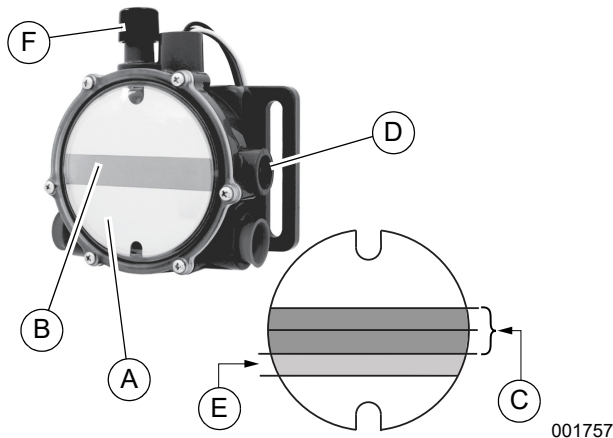

Figure 8-1. Lube Oil Maintainer Regulator
See Figure 8-1. The green bar (B) observed through the viewing lens (A) shows normal oil level operating range (C) of lube oil maintainer regulator during engine running operation. When oil level is within green bar, the internal float holds the inlet valve closed to keep crankcase oil at current level.
See Figure 8-1. Momentarily press test button (F) to verify float is operating correctly.